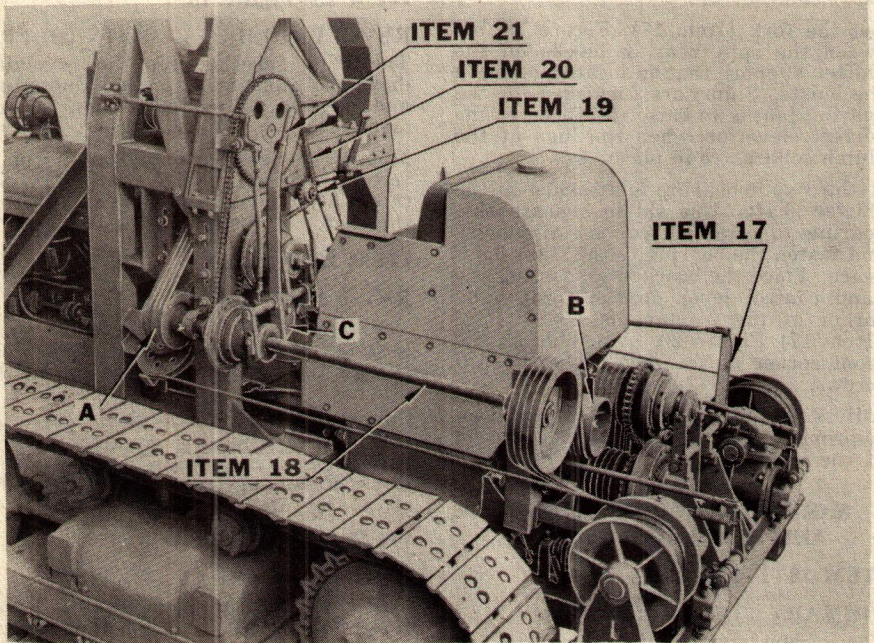

Figure 18 Countershaft and Revolving Drive
ITEM 17 - Figure 18
Set the fork (Item 17), Figure 18, between the split bearing blocks on the shifter support that is located between the hoists. Shims are furnished for the bearing blocks to raise the forks to the correct elevation when the lugs of the clutch collars are in place.
ITEM 18 - Figure 18
If the belts were placed over the idler pulley bracket as a position previously specified for them, remove the belts. Raise the shaft assembly to its position. See (Item 18), Figure 18. Raise the belt idler pulley (B), Figure 18, to its topmost position.
Raise the front end of the shaft assembly above its normal position and set the revolving drive belts in the grooves of the front sheaves. Refer to (A), Figure 18.
ITEM 19 - Figure 18
Mount the idler assembly on the main frame, shown (Item 19), Figure 18. Set the position of the sprocket as far from the center of the tractor as possible.
ITEM 20 - Figure 18
Connect the drive chain (Item 20), Figure 18, then adjust the chain to the proper tension. See Adjustment Instructions "Revolving Drive Chain", Page 56 of the Operations Section.
ITEM 21 - Figure 18
Loosen bolts supporting bracket (C), Figure 18. Loosen $\frac{1}{2}$ " capecrews on the clamps bolted to the outside prongs of the forks.
Place the shifter shaft (Item 21), Figure 18, between the split bearing blocks mounted on the support bracket. Raise or lower the mounting bracket to establish proper alignment and travel of the shifter mechanism. Connect upright link to the bell crank lever mounted on the main frame.